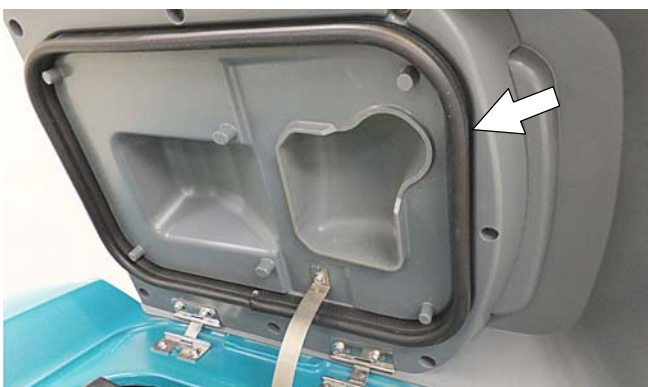

FIG. 114
4. Inspect and clean the seal on the recovery tank lid (Figure 114). Replace seal if damaged.